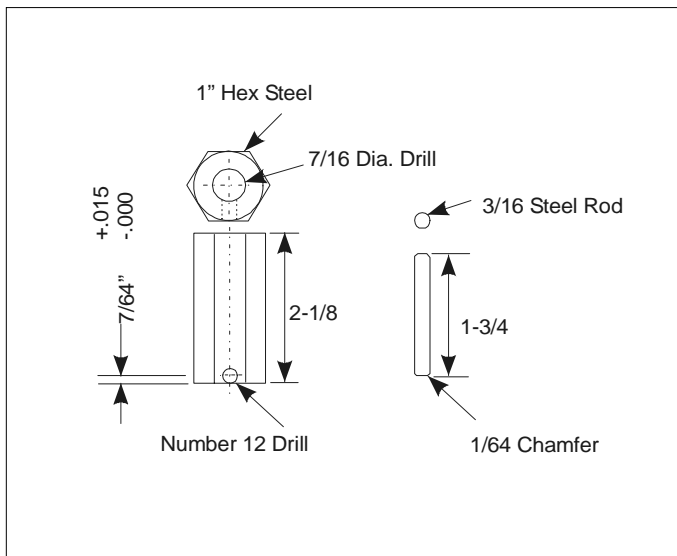

Figure 3 - Holding Fixture (Dwg. R-42-1)
In addition to the regular shop tools, a holding fixture for disassembling and assembling the exhaust valve unit **MUST BE** available to the repair person. Dimensions and specifications for making this fixture are shown in Figure 3.
IMPORTANT: The information shown in Figure 3 for making the holding fixture is furnished as a convenience. The Wabtec Corporation of American Standard Inc. (WABCO) shall have no responsibility for tools which they do not manufacture and will not be responsible for the results when using such tools (including claims by third parties).
8.1.10.1 The use of the holding fixture as shown in Figure 3 is required.
8.3.1 The use of the holding fixture, shown in Figure 3, is required during the procedures which follow.